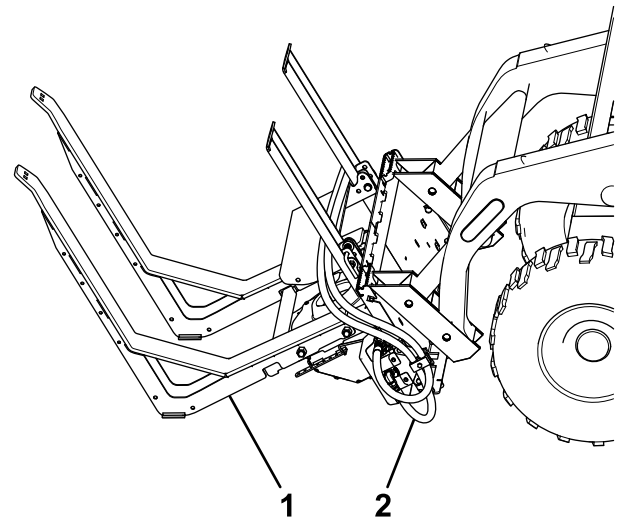

Figure 11
2. Drive the skid steer forward into the back of the spreader frame (Figure 11).
5. Connect the hydraulic hoses to the attachment ports on the skid steer (Figure 11).